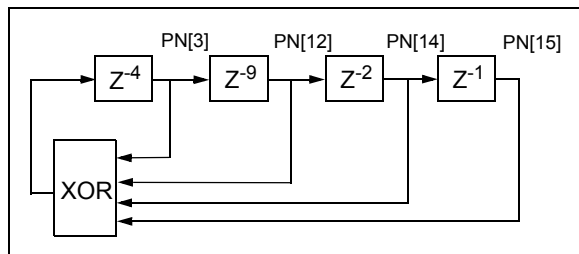

FIGURE 4-26: Block Diagram of 16-bit LFSR for Pseudo-Random Number (PN) Sequence for Output Test Pattern.
4.12.13.1 Pseudo-random Number (PN) Sequence Output
When TEST_PATTERNS<2:0> = 111, the device outputs a pseudo-random number (PN) sequence which is defined by the polynomial of degree 16, as shown in Equation 4-9. Figure 4-26 shows the block diagram of a 16-bit Linear Feedback Shift Register (LFSR) for the PN sequence.